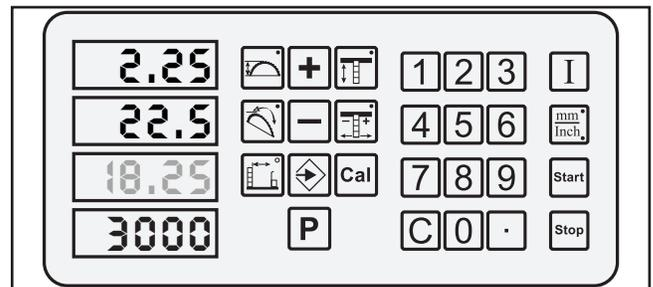

Figure 14. Third entry.
6. Use the number keys to enter the cutting width (Figure 14).